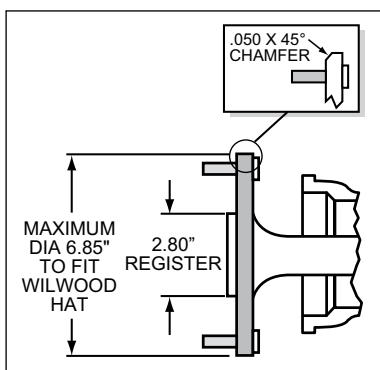

Figure 2. Axle Flange Maximum Dimension
- Axle center register diameter is 2.80", Figure 2. This kit uses Wilwood's removable center register adapters. Rotors can either be centered on the axle register, i.e. *register-centric* or centered on the wheel studs, i.e. *stud-centric*. Due to variations in wheel stud final diameters, *register-centric* centering can be a more accurate method of centering the rotor to the axle. Wilwood offers various diameter adapters for purchase in addition to the ones supplied in this kit, see Table 1.
- Maximum axle flange diameter must be no larger than 6.85" w/.050" x 45° chamfer, Figure 2.